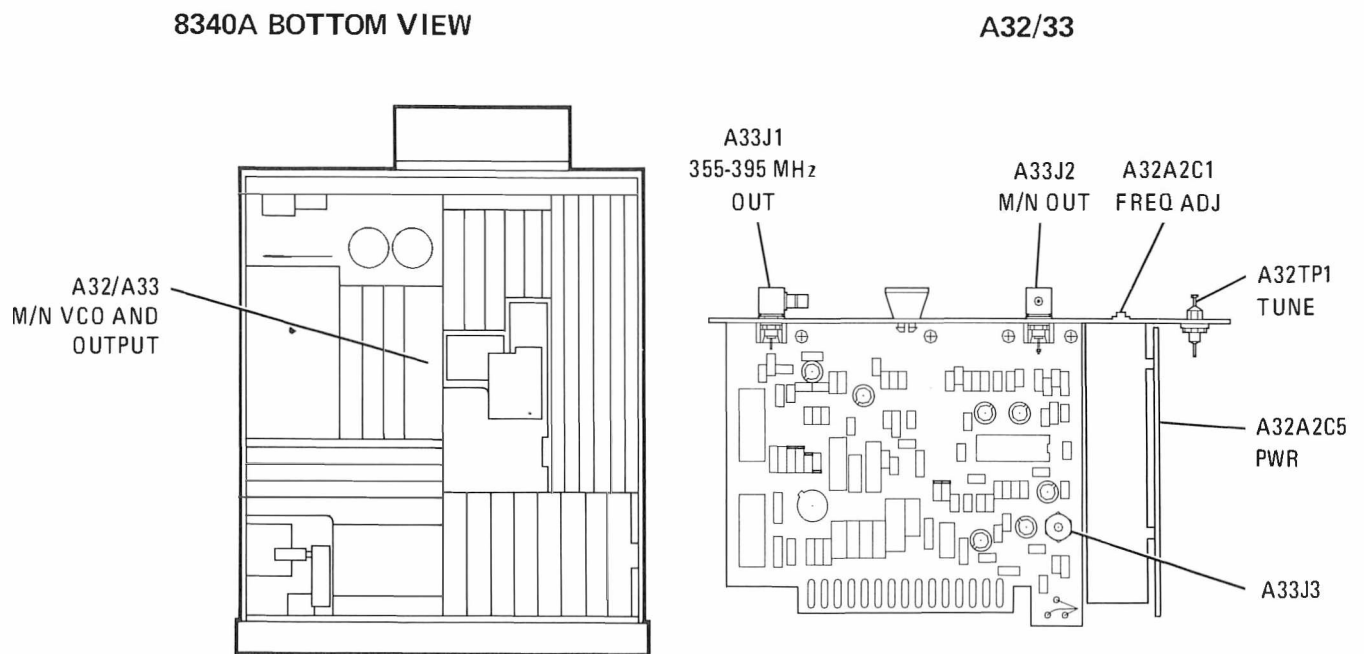

Figure 5-9. Location of M/N Loop Adjustments
6. Connect DVM to A32TP1 TUNE test point. Refer to Figure 5-9 for location of A32 assembly.
12. Disconnect A32 output cable A32A1W1 from A33J3 (Figure 5-9) and connect this cable using SMB male-to-male adapter to the input of the Spectrum Analyzer. Set 8340A LINE switch to ON and press [**INSTR PRESET**] pushbutton.
15. Adjust A32A2C5 PWR for a VCO output level of 0 dBm ± 2 dB as indicated on Spectrum Analyzer. Refer to Figure 5-9 for location of adjustment.